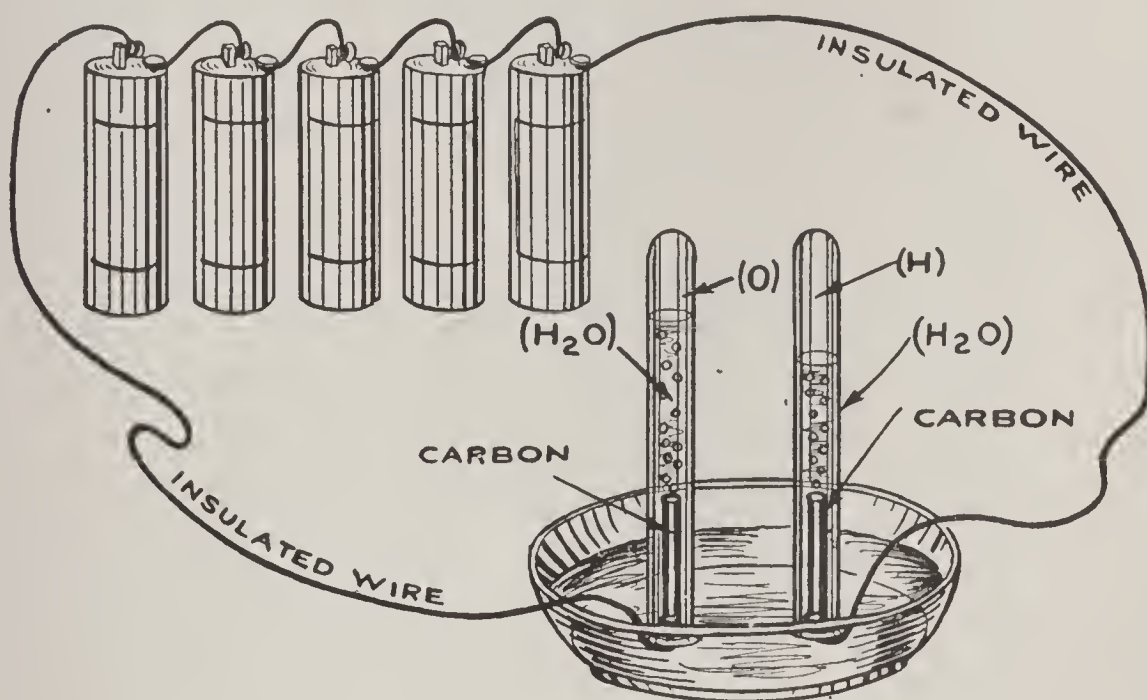

FIG. 72.—Separating Water into Its Original Gases.
Now fill both test tubes full of the electrolyte, which is the water (H_2O) so prepared, then place your finger over the mouth of each one in turn, invert it and set it into the water (H_2O) in the soup-plate over the carbon rod, or electrode, as it is called, as shown in Fig. 72. As soon as you have done this you will see bubbles of gas form on each carbon electrode and rise up through the water (H_2O) to the surface of it.
withdraw the tube and insert one that is connected with your hydrogen generator, which is shown in Fig. 72, and pass enough hydrogen (H) into it to displace 2 inches more of mercury.